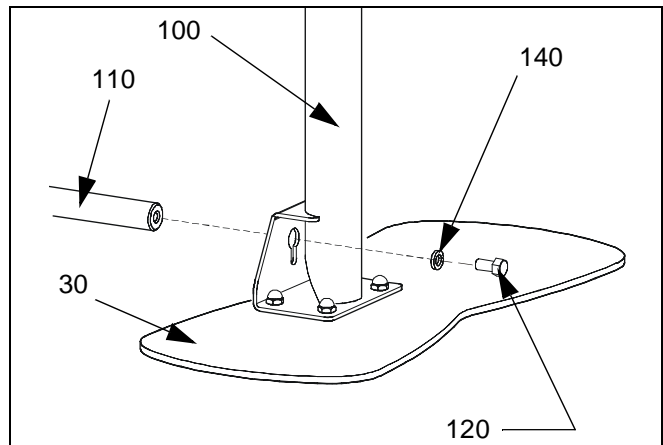

Figure 3: Assemble Support Bar To Base
7. Align tapped hole in end of support bar (110) with teardrop hole in lower R.H. upright (100).
8. Secure support bar (110) to R.H. upright (100) using one LW (140) and one HHCS (120). (see Figure 3)
9. Align tapped hole in end of support bar (110) with teardrop hole in lower L.H. upright (100). Once HHCS has been started, seat cross support bar (110) into bottom of teardrop slot.
10. Secure support (110) bar to L.H. upright (100) using one LW (140) and one HHCS (120). (see Figure 3)